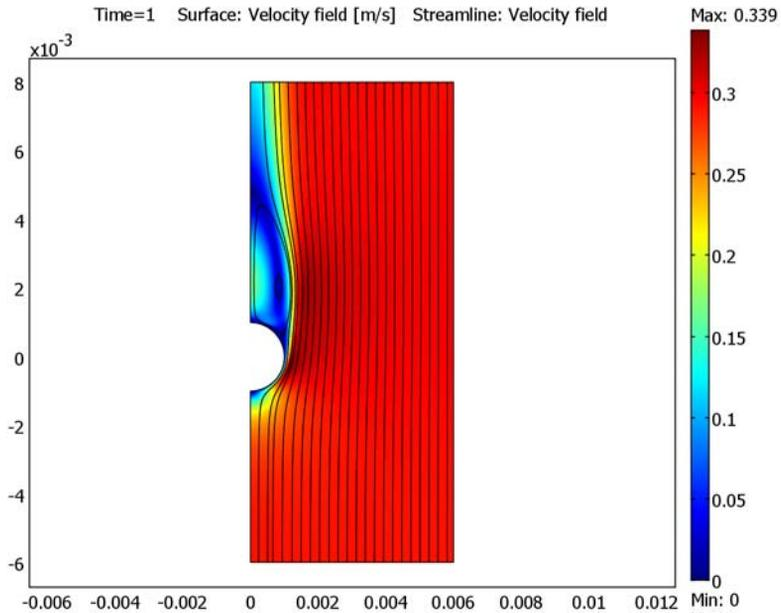

Figure 6-3: The velocity field at steady state. Note that the velocities are plotted in the reference system of the sand grain.
Figure 6-3 shows the velocity field at the final simulation time, $t = 1$ s, when the particle has reached steady state.
Figure 6-4: The velocity field around the sand grain at a series of times ($t = 0.025$ s, 0.05 s, 0.075 s, 0.1 s, 0.15 s, 0.2 s, 0.3 s, 0.5 s, and 0.75 s). For a color legend, see Figure 6-3.
- 7 Click **OK** to see the combined surface and streamline plot in Figure 6-3.